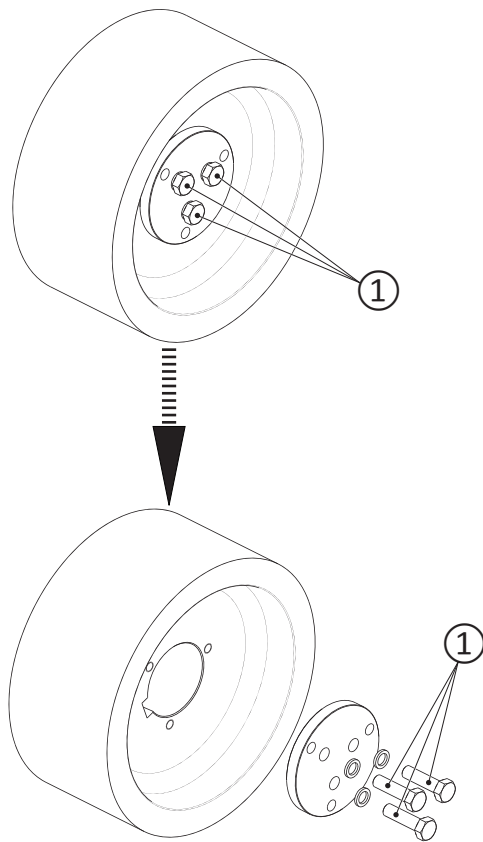
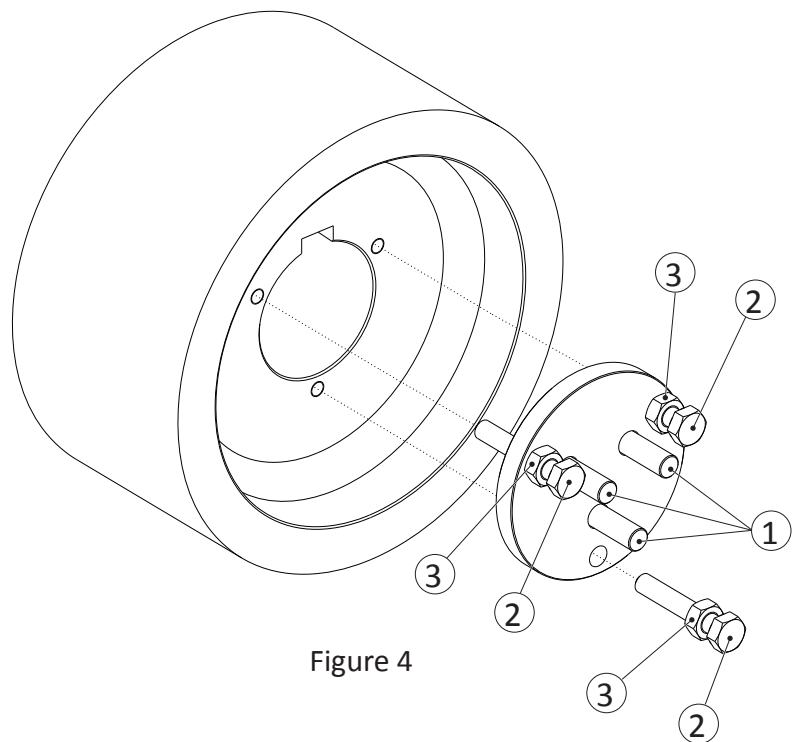

Figure 3
Figure 4
- Unscrew the retaining screws ① “Figure 3” and place them as shown in “Figure 4”.
- Tighten the nuts ③ on the screws ② and place them as shown in “Figure 4”.
- Tighten the ② screws by 15/20 mm in the threaded holes on the pulley.
- Remove the pulley by tightening in circular sequence the nuts ③, while holding the pulley screws ② firm.
① SCREWS M14x50
② SCREWS M12x60 (not included in the standard supply)
③ NUTS M12 (not included in the standard supply)